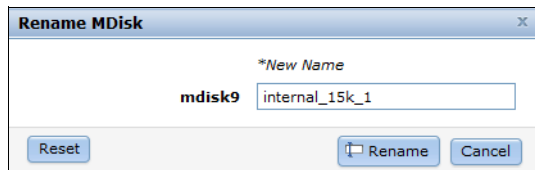

Figure 8-54 Rename MDisk
- ▶ **Rename:** MDisks can be renamed by selecting the MDisk and clicking **Rename** from the **Actions** drop-down menu. Input the new name of your MDisk and click **Rename** (Figure 8-54).